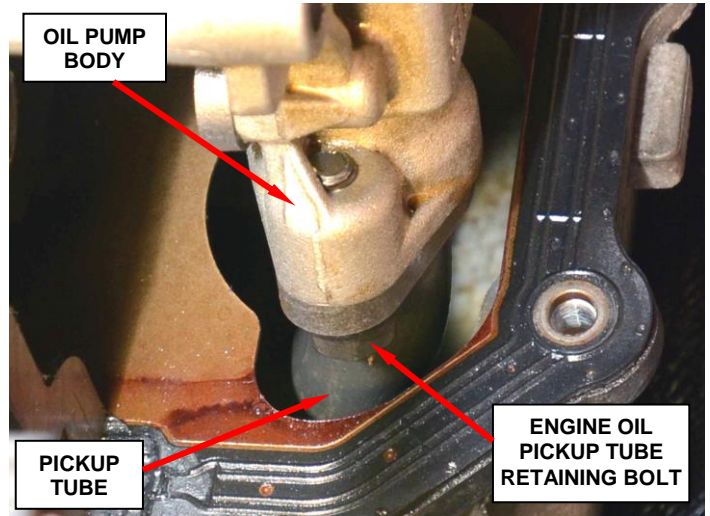

Figure 14 – Engine Oil Pickup Tube Bolt
59. Install the engine oil pickup tube retaining bolt (Figure 14). Tighten the bolt to 195 in. lbs. (22 N·m).